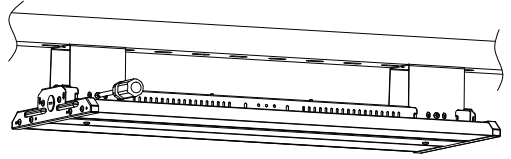
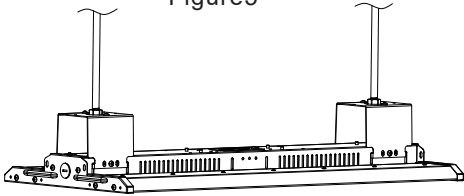

Figure 6
Figure 7
2. Mount bolt on the rail or ceiling, and mount the fixture bracket on the bolt (Figure 6), then install the fixture. (Figure 7).